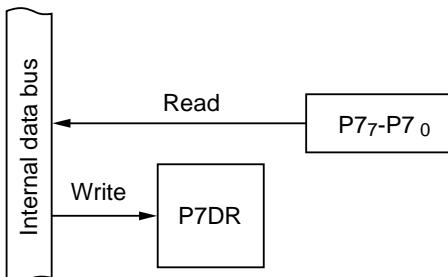

Figure 10-45 Input Port (Modes 1 to 7)
**(1) Input Port (Modes 1 to 7):** Figure 10-45 shows a block diagram illustrating the general-purpose input function. Table 10-35 indicates register read/write data. Values written in the port 7 data register (P7DR) have no effect on general-purpose input lines. When read, P7DR returns the value at the pin.